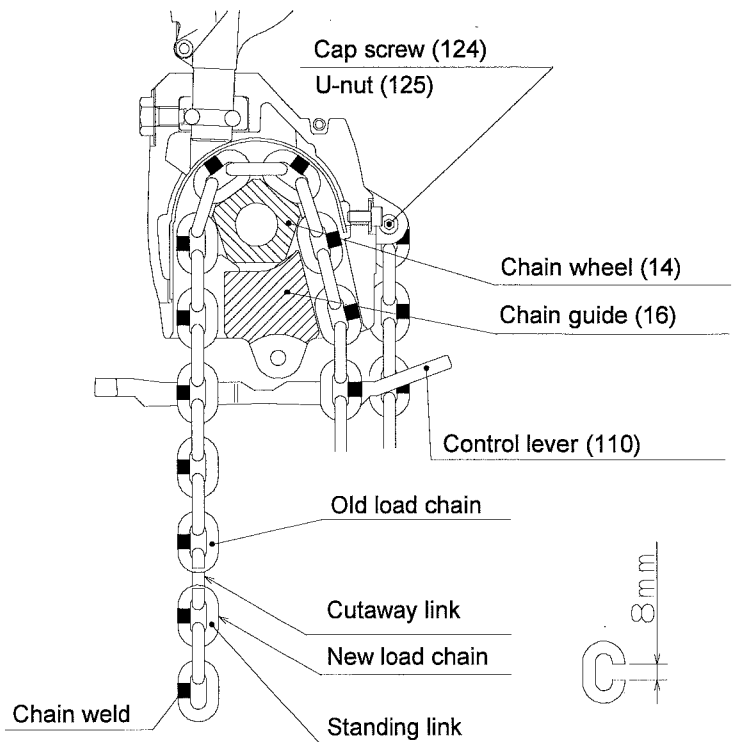

Fig.13
2. Method 2 (See Fig. 13)
- 2) Using an abrasive wheel, etc. , cut a portion of the second link from the end (i.e. the first flat link) as shown in Fig. 13.